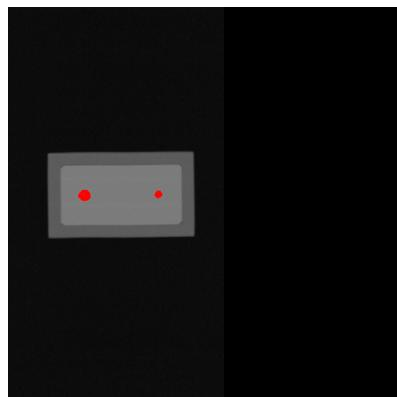

Figure 42 Successful block test
2. Check if the test was successful: the SensorX screen shows two bones in the block (see Figure 42).